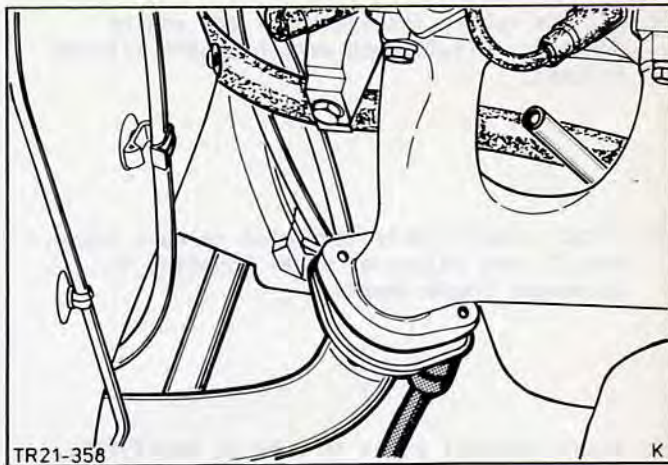

Fig.17. Release exhaust pipe.
16. Release the exhaust pipes from the exhaust manifolds (2 nuts in each case), Fig.17.